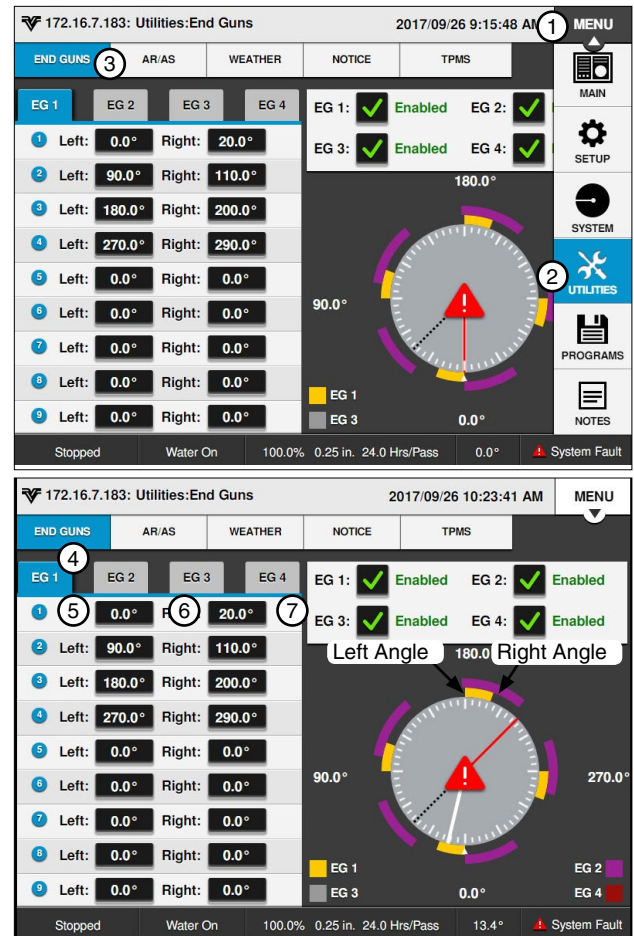

Figure 67-1 1. Menu
1. Push **Menu**, **Utilities** and **End Guns** to display the End Guns screen. Refer to Figure 67-1.